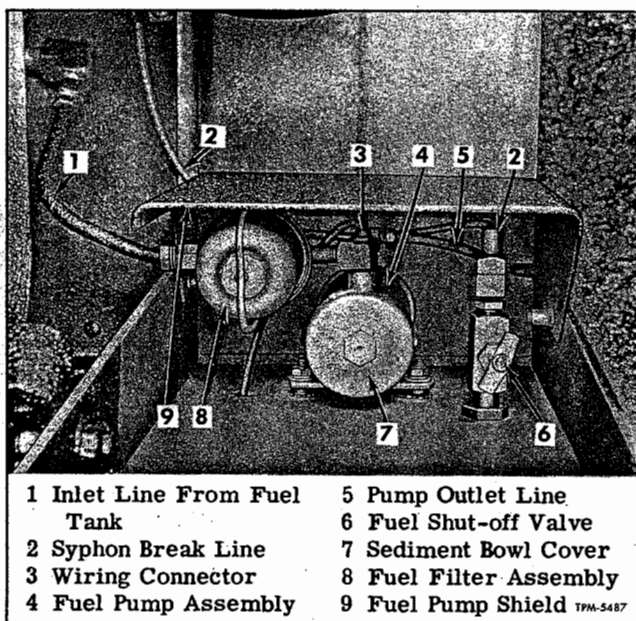
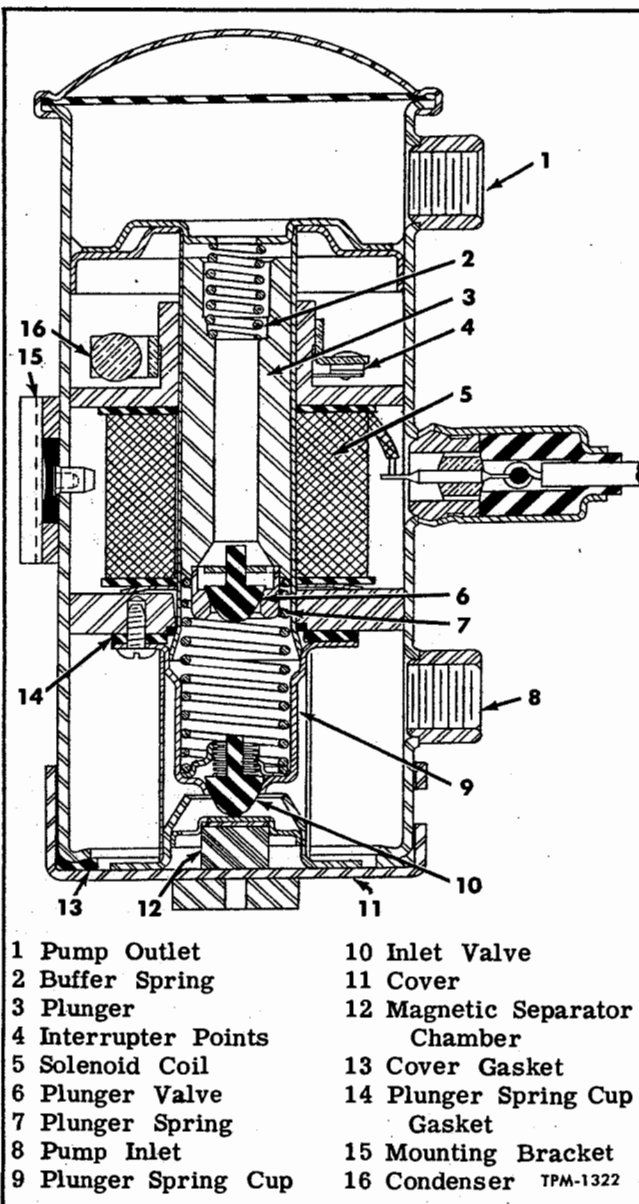
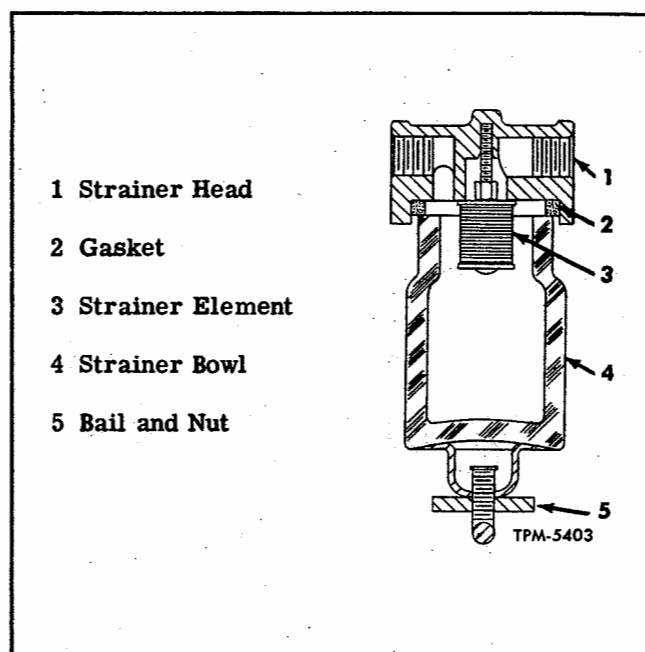

Figure 32—Fuel Pump, Strainer, and Shut-Off Valve Installed
Figure 33—Fuel Pump Assembly
Figure 35—Fuel Strainer Assembly
Action of fuel pump draws fuel from tank and through fuel filter into bottom of fuel pump. Fuel is discharged from top of pump into a line leading to a shut-off valve at side of fuel pump (fig. 32), through the shut-off valve, then to the carburetor. The small fuel line connected to tee fitting at shut-off valve and leading back to the top of the fuel tank is a syphon break line. Purpose of this line is to prevent fuel from syphoning out of tank through the carburetor when the vehicle is in operation with the air conditioning engine stopped.
Electric fuel pump (fig. 33) is mounted on bulkhead at rear of left front air suspension rear bellows as shown in figure 32. The electric fuel
NOTE: Key numbers in text refer to figure 33.
1. Remove bolts attaching fuel pump shield to body structure and remove shield (fig. 32).
3. Mount pump in vise, clamping vise jaws onto one side of the mounting bracket. Remove sediment bowl cover (11) and screen, using wrench on nut at bottom of cover.
4. Remove three screws securing plunger spring cup (9) in fuel pump body. Remove plunger spring cup, gasket (14) plunger spring (7) and plunger and valve assembly (6) from pump body. The buffer spring (2) or the valve assembly should never be removed from the plunger. Also, do not remove valve assembly (6) from the plunger spring cup.
6. Insert the plunger (3) and valve assembly (6) with buffer spring (2) into the cylinder, buffer spring end first. Check fit of plunger (3) in cylinder by slowly raising and lowering the plunger in the cylinder. It should move freely without any tendency to stick. A click will be heard each time the plunger approaches the top of the cylinder, thus indicating that the interrupter system is functioning properly.
7. Install plunger spring (7), plunger spring cup gasket (14), and plunger spring cup (9), and valve assembly (10) and attach with screws. Tighten screws reasonably tight, but not tight enough to distort the cup.
8. Install sediment bowl cover (11) screen, and gasket (13) and turn into place using wrench on nut at bottom of cover.
A fuel strainer (fig. 35) is connected into the fuel line near the fuel pump (fig. 32). Strainer assembly incorporates an edge type strainer element which cleans the fuel before it reaches the fuel pump and carburetor, providing the strainer element is given the proper maintenance. Gasoline enters through the inlet and fills the bowl, then passes between the strainer discs which remove dirt, rust, etc. The clean fuel then flows up through spaces in center of strainer element and out the outlet to the pump and carburetor. Service the strainer at regular intervals as follows: